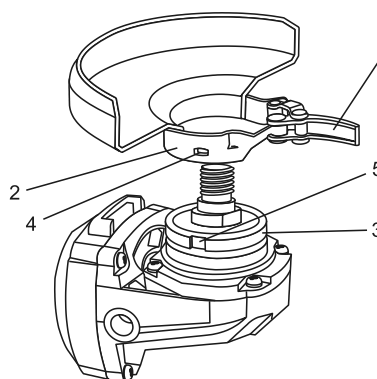

Fig. 2
1. Pull the guard clamp lever (1) outward to allow the guard clamp (2) to expand for installation.
2. Slide the guard clamp (2) over the spindle housing (3) until the blade guard locating detents (4) mate with the grooves (5) in the spindle housing (Fig. 2).